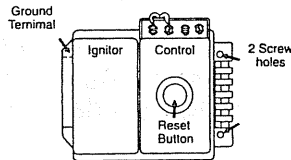

FIG. 1 42130-02 MOUNTING
2. The 42130-02 Series is designed to mount directly on top of the burner housing (Fig. 1). The baseplate is secured with two (2) screws through the hinge and two (2) hold-down clamps on the ignitor side.
5. **Ground** connection is made by contact of the baseplate ground terminal and the baseplate hold-down clamps on the burner housing. Refer to Fig. 1.